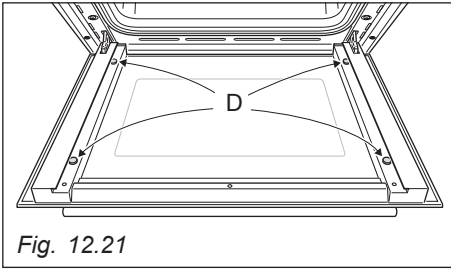
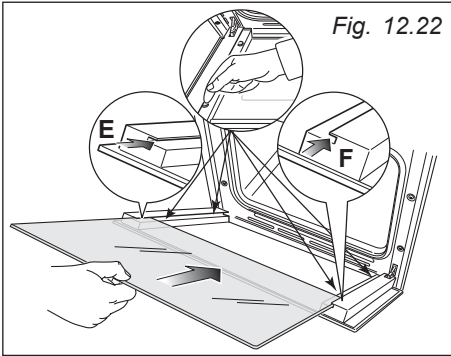
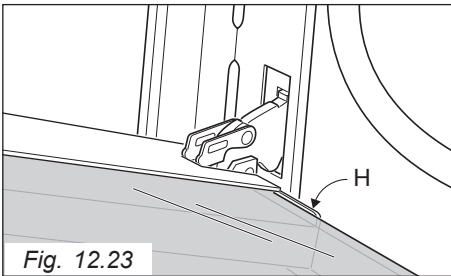

Fig. 12.21
Fig. 12.22
Fig. 12.23
- Check that the four rubber pads are in place ("D" in fig. 12.21). **IMPORTANT:** It is advisable, while refitting the glass, to keep pressed in position the four rubber pads "D", by a finger, to avoid breakage or slippage of the rubber pads themselves (fig. 12.22).
- Insert the inner pane in the left "E" and right "F" side guides (fig. 12.22) and gently let it slide up to the retainers "H" (fig. 12.23).